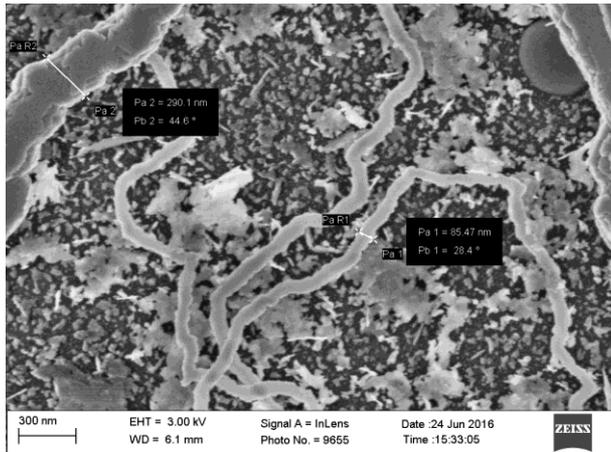

Fig. 1
- X. Perform Remote FE-SEM Analysis (Figures 1 and 2)